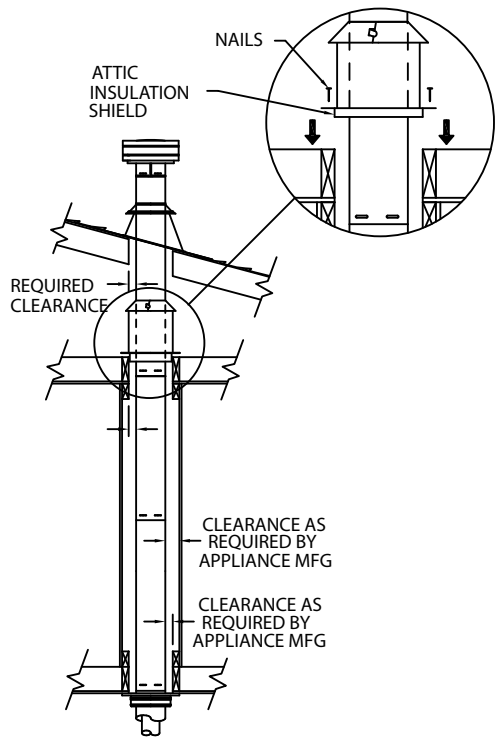

Figure 19
(1) For multi-story vertical installations, a Ceiling Firestop is required at the second floor, and any subsequent floors (Fig. 19). Refer to Table 1, page 8. Cut and frame a square opening for installation of the Ceiling Firestop.
(2) If Vent passes through any occupied areas above the first floor, including closets and storage spaces, it must be enclosed. The enclosure may be framed and sheetrocked with standard construction materials, but required clearances to combustibles must be maintained. Consult the appliance manufacturer's installation instructions for the minimum allowable clearance between the outside of
the vent pipe, and the combustible surfaces of the enclosure. Do not fill required air spaces with insulation. **(3)** If venting system passes through an attic space the Attic Insulation Shield or a chase enclosure must be installed to prevent contact between Pipe Sections and the insulation or other debris. For the Attic Insulation Shield, nail the base to floor of attic and adjust shield for appropriate insulation level, then attach the collar at the top of assembly (**Fig. 19**). For a chase enclosure, it may be constructed out of sheetrock or similar building materials and framed around the support box or the pipe, maintaining the clearance to combustibles as required by the appliance manufacturer. For vaulted ceilings a chase enclosure must be constructed as the Attic Insulation Shield can not be installed.